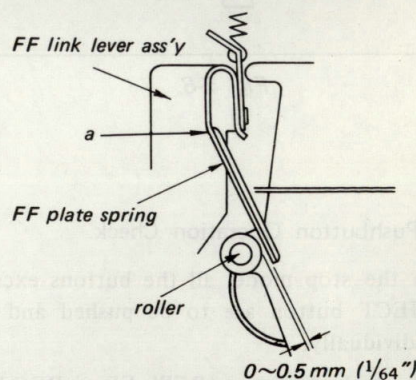
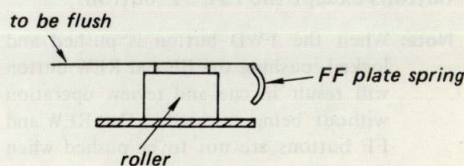

Fig. 7-6.
Fig. 7-7.
7-6. FF Plate Spring Clearance Adjustment (Fig. 7-6 and Fig. 7-7)
- In the stop mode, clearance between the roller and the FF plate spring should be 0 to 0.5 mm ($\frac{1}{64}$ ") and the FF plate spring should be flush with the roller as shown in Fig. 7-7. If necessary, adjust the clearance by bending the portion "a" of the FF plate spring.